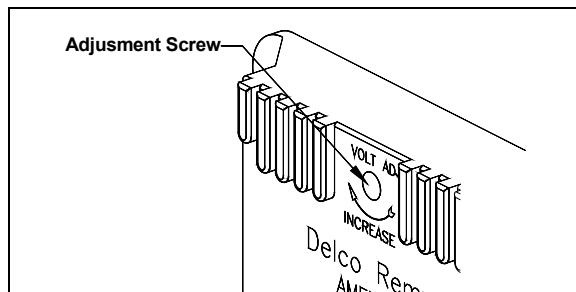

FIGURE 32: ADJUSTING REGULATOR VOLTAGE SETTING 06418
4. If not, the desired setting can be obtained by removing the plug from the voltage regulator cover and slightly turning the adjusting screw inside the regulator. Turn the adjusting screw clockwise to increase the voltage setting or counterclockwise to decrease it. See Figure 32 for details.
Resistor R2 = Turn voltage adjustment screw (identified in Figure 32) with ohmmeter connecting each way. Reading should change as slotted screw is turned. If not, replace R2.